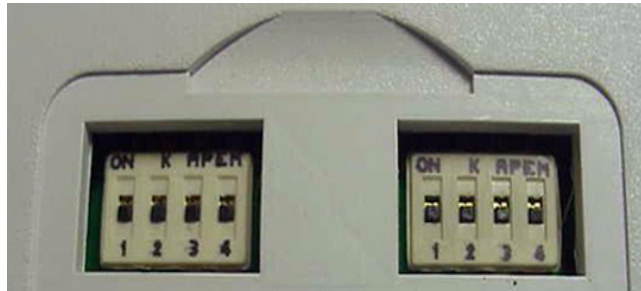

FIGURE 2-3
2. Set all the DIP switches to the minimum gain (maximum attenuation) position (OFF) (shown in FIGURE 2-3).